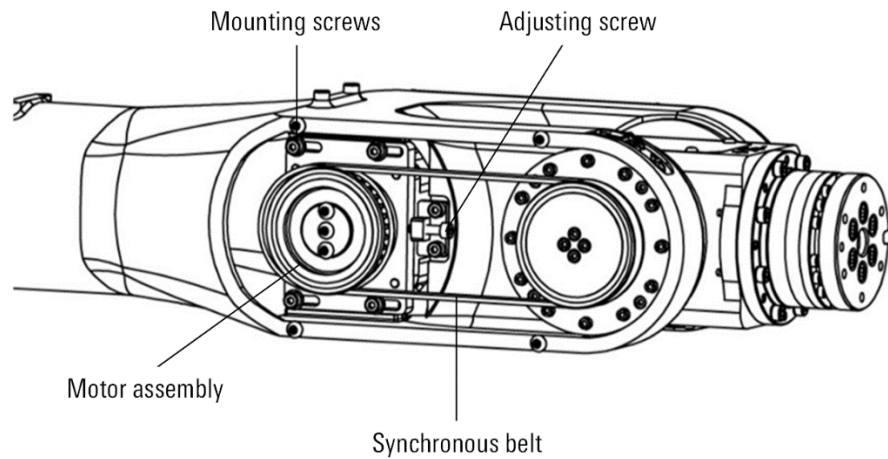

Figure 12-10 Removing synchronous belt
Step5. Remove four M4 screws from the motor base, as shown in Figure 12-10.